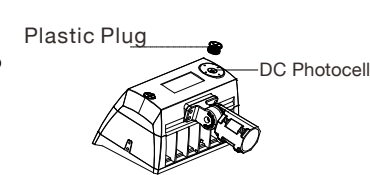

Figure 16
- Open the plastic plug counter clockwise with screwdriver, then slide the switch up and down to adjust the photocell controller in your demand (FIGURE 16)